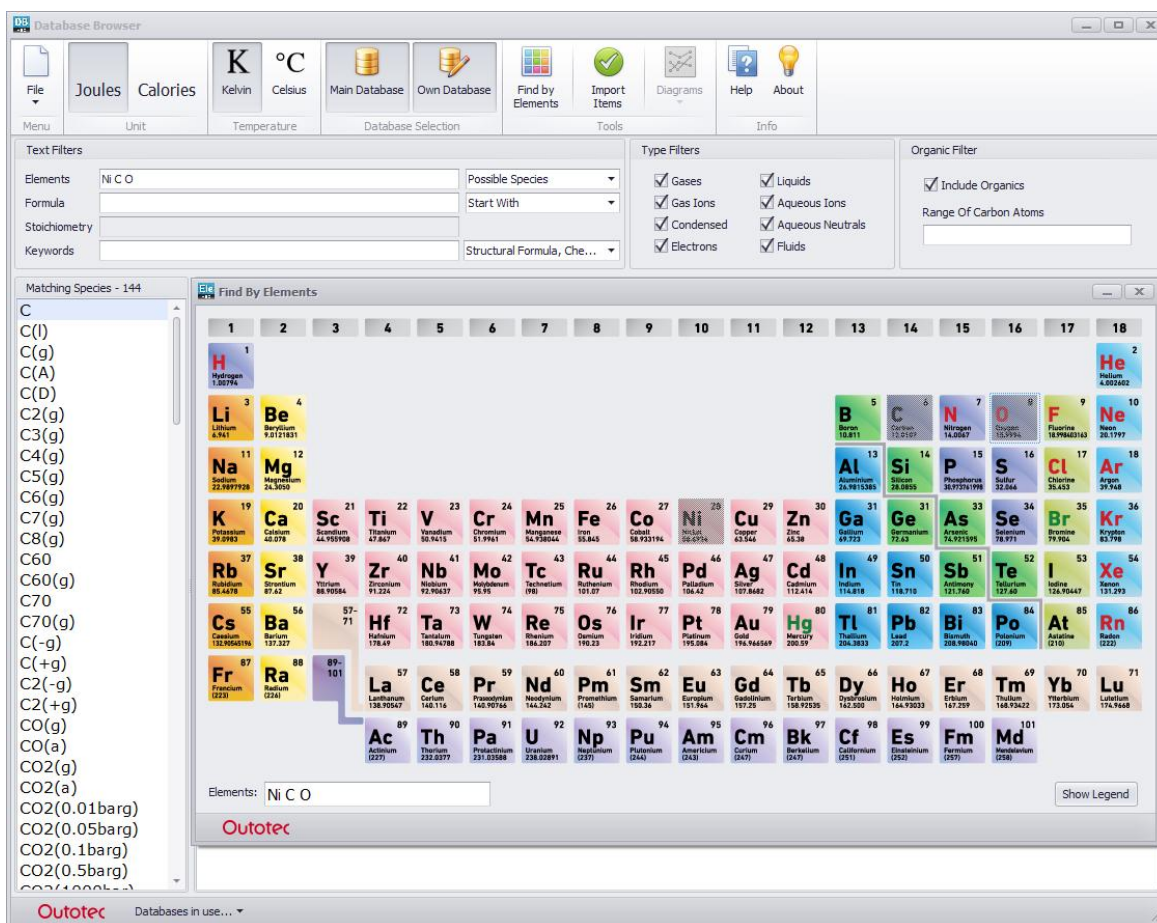

Fig. 3. Specifying the elements of the chemical system.
1. Press **Empty File From Elements**. Then specify the elements which are present in your system, see Fig. 3. The HSC program will search for all the available species in the database and divide them, as default, into gas, condensed and aqueous phases. The user can then edit this preliminary input table.